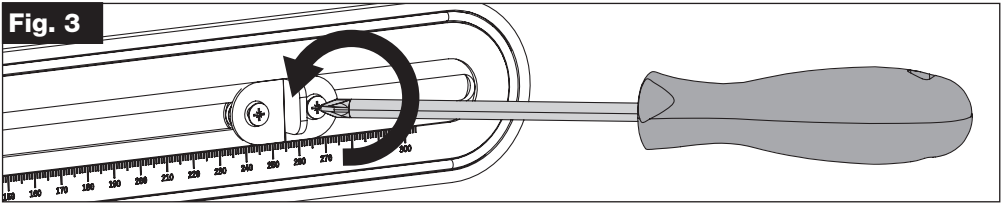

Fig. 4
- Measure and halve the door/drawer width, and move the Short Guide to this position on the Short Guide Measurement Scale (Fig. 4).